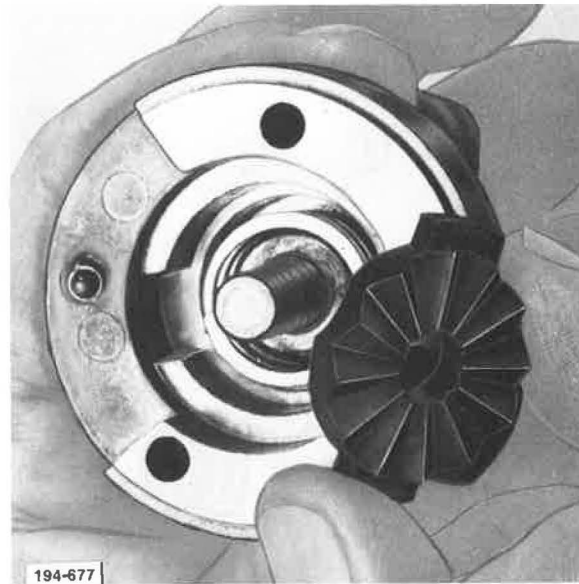

Figure 196. Removing Detent Wafer
5. Remove detent wafer from cover. See Figure 196.